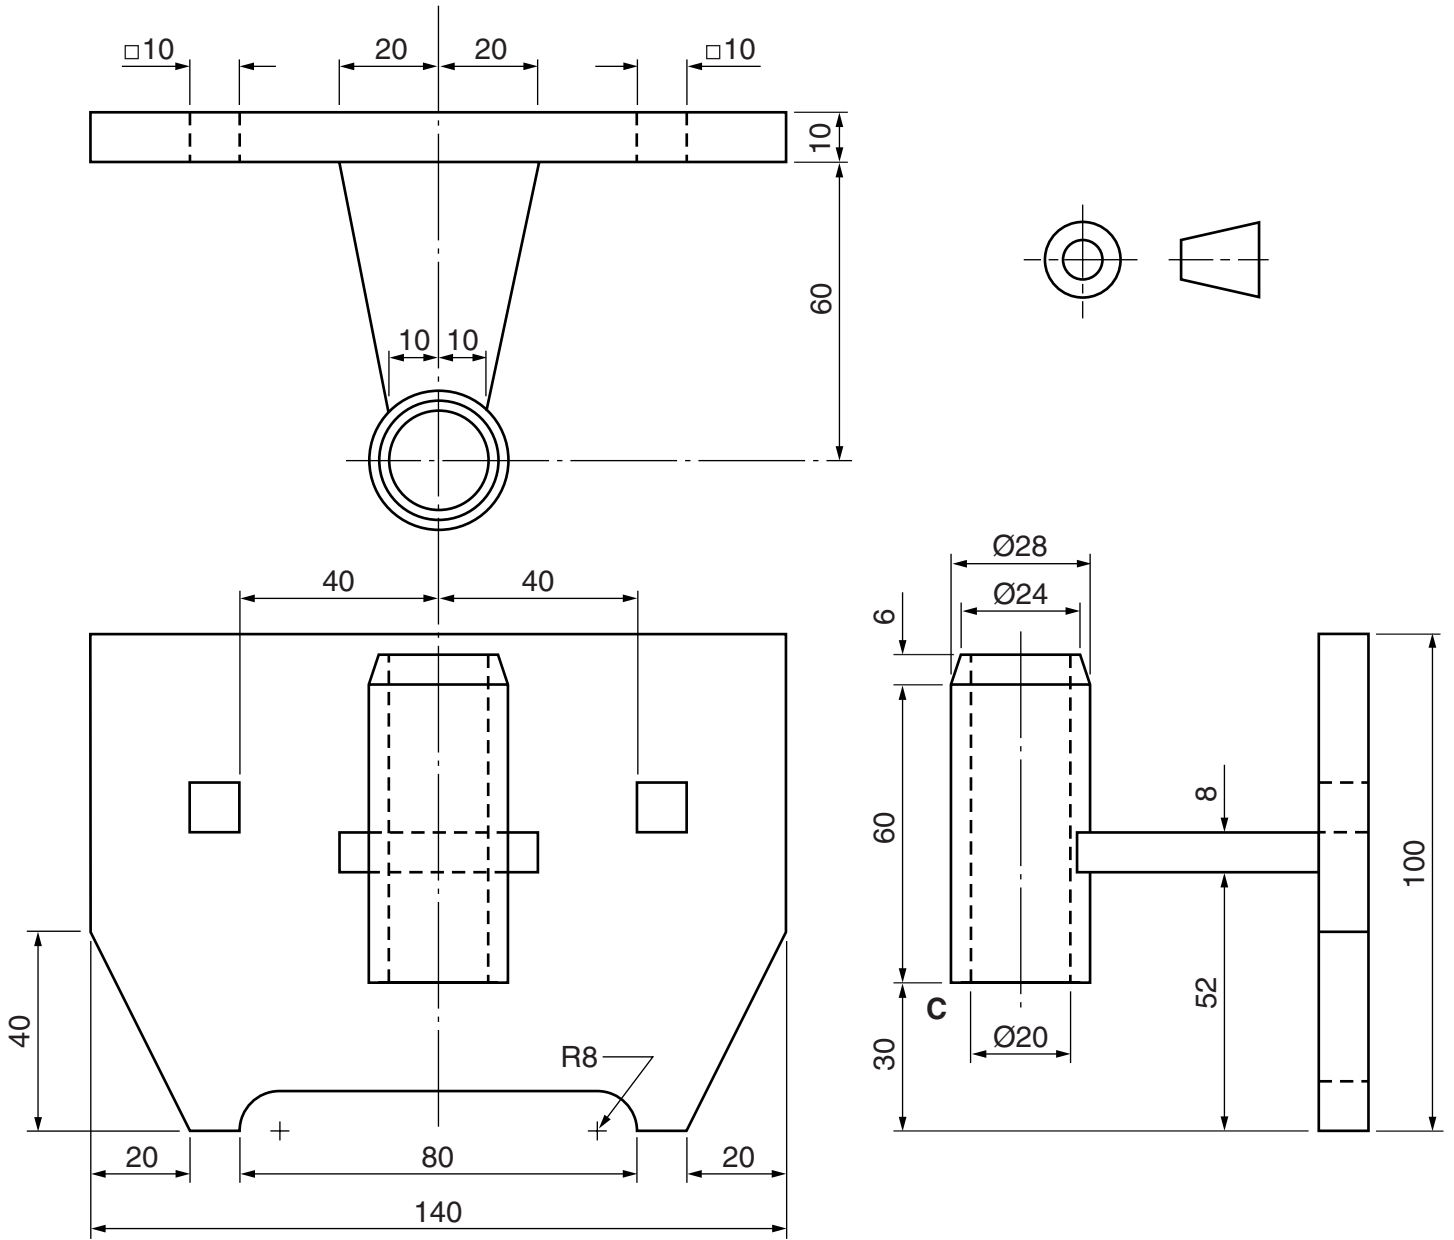

Fig. 1
- 1** Fig. 1 shows views of a fabricated bracket in third angle projection. The dimensioning of the views is incomplete and is only a guide to the general proportions of the bracket.